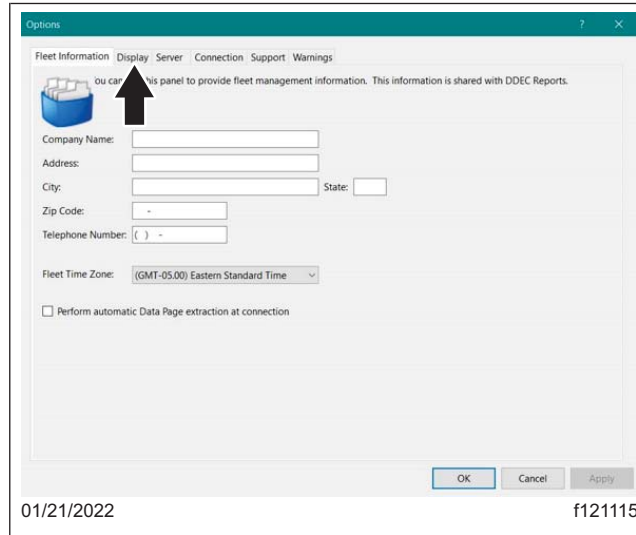

Fig. 3, Changing DiagnosticLink Units System, Step 2
3.3 On the following dialog display, select the 'Display' tab. See **Fig. 3**.